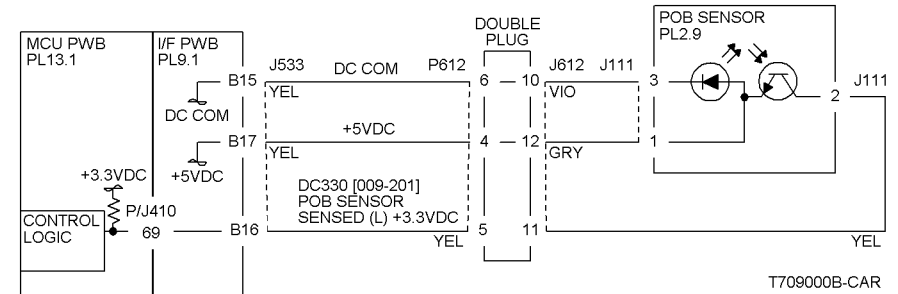

Figure 1 Typical Reflective Sensor Circuit Diagram
When sensors are unplugged, the input at the PWB should always be high if there is no harness short or PWB failure. Check the output wire from the sensor (typically pin 2 on a 3 pin connector) to the PWB for a short circuit. If the wire is good, replace the PWB. Figure 1 represents a typical sensor for this machine.
Some sensors have built-in inverters and the outputs will go to the low (L) state when the sensors are blocked. In other situations, the processing of the signal in control logic may cause the logic level displayed on the UI or the PWS to be the opposite of the actual voltage output by the sensor. The specific RAP and/or Circuit Diagram will indicate if this is the case. Figure 1 is an example of a typical sensor circuit for this machine